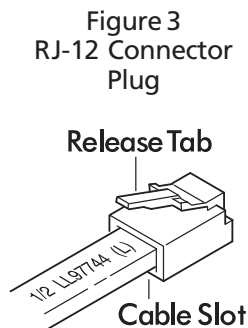

Figure 3
**Note: Always make sure the printed side of the cable is facing the release tab on the RJ-12 connector plug (figure 3). This ensures proper orientation of the plug on each end of the cable.**
10. Push down on RJ-12 connector release tab (figure 3) and remove the RJ-12 connector from the crimping tool.